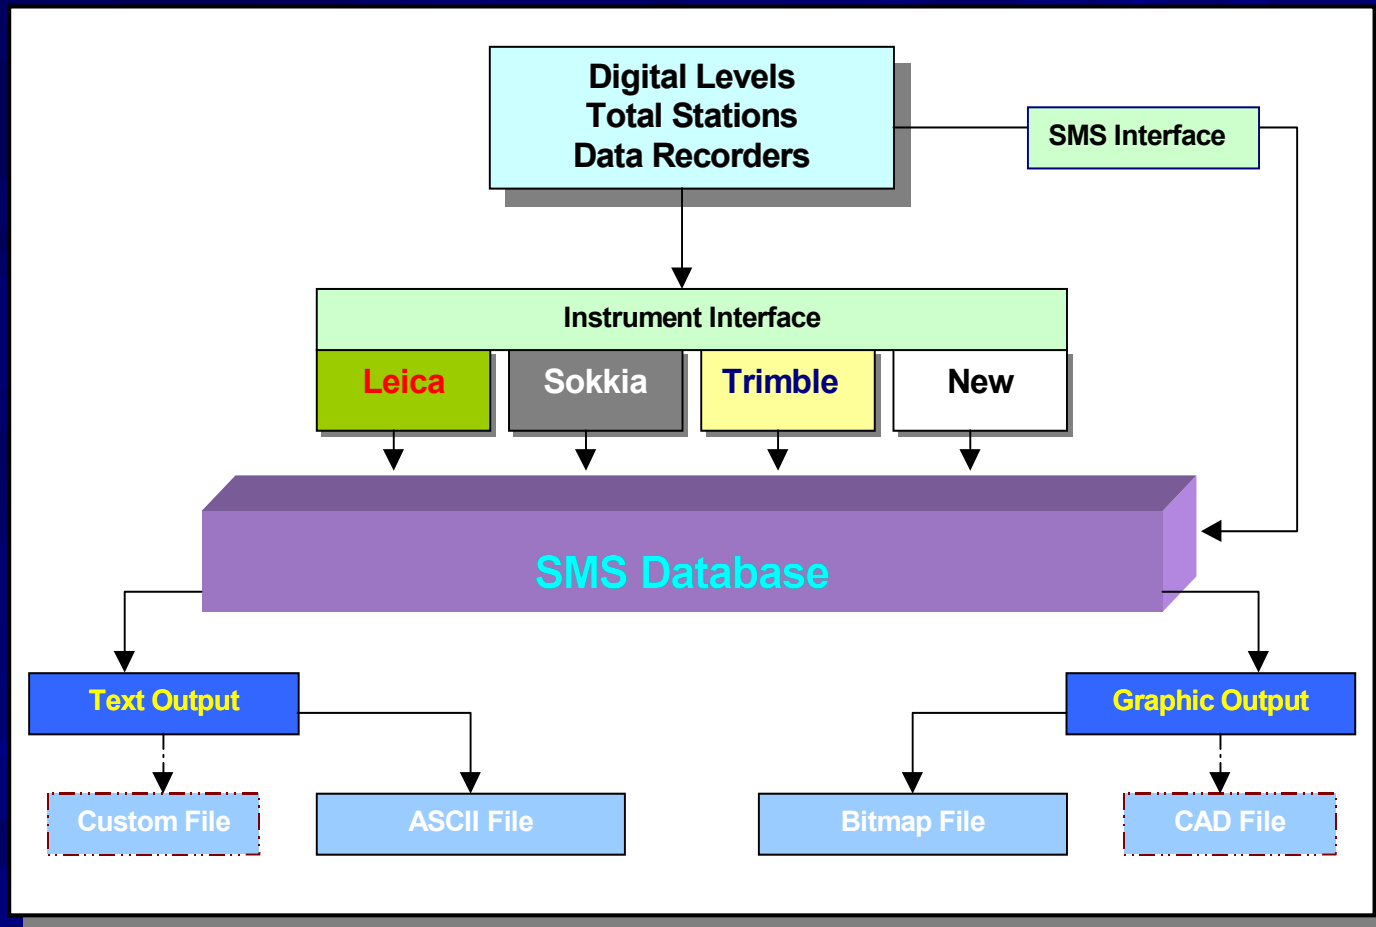

Fig. 4
- There is a comprehensive data interface to all major brand of data recorders/collectors and survey instruments, such as Digital Levels and Total Stations, etc., Fig. 4, to accommodate input preferences from a wide range of instruments to custom formats.